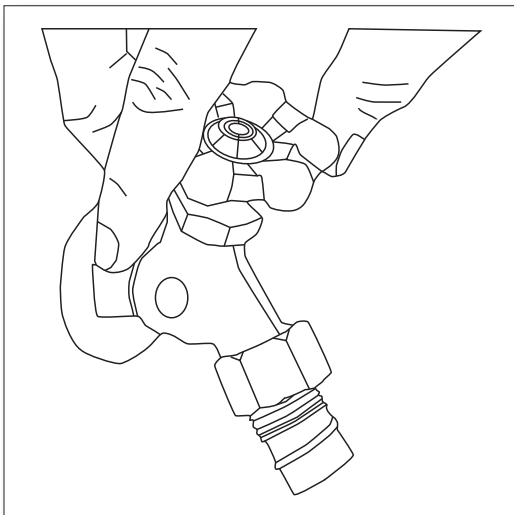

Fig. 19
***!Turn on the water supply at the faucet.* (Fig. 19)**